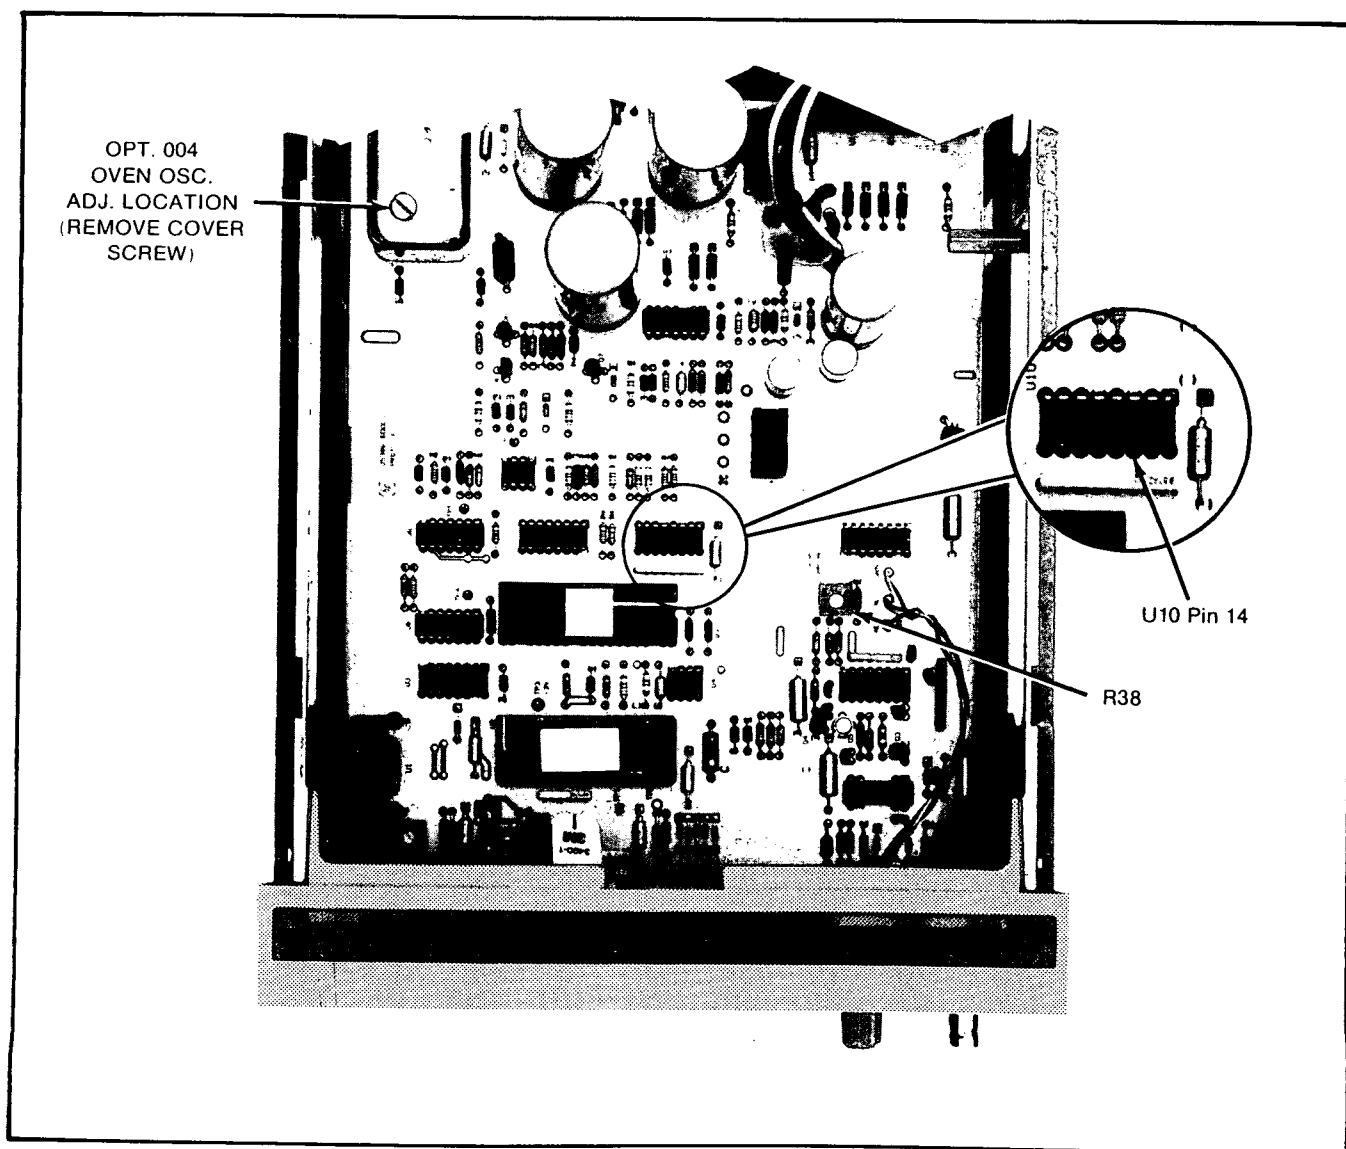

Figure 5-1. Assembly Adjustment Locator
- a. Remove the HP 5386A top and bottom covers; locate variable resistor A1R38 as shown in *Figure 5-1*, Assembly Adjustment Locator.
e. Connect the HP 1740A oscilloscope probe at U10 Pin 14. See *Figure 5-1* for probe connection point.
e. Access the oscillator adjustment screw by removing the screw on top of the oven oscillator. See Figure 5-1 for adjustment location.